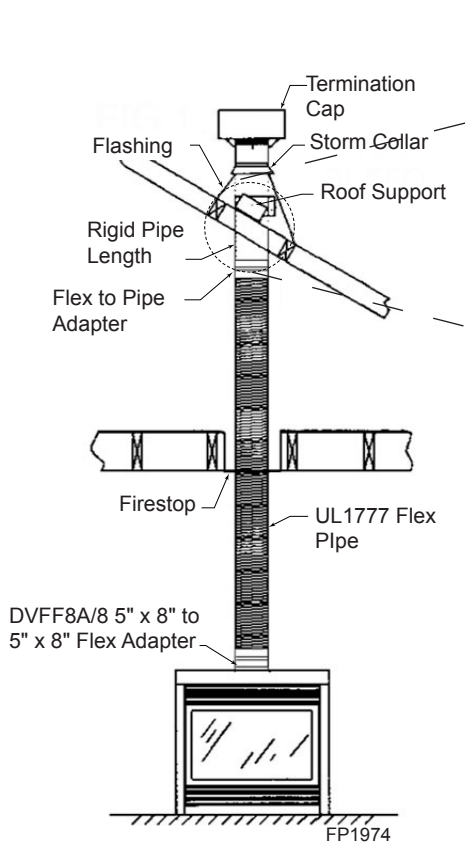

**Figure 38 -
2. Install firestop spacers, *Figure 38*, when penetrating ceiling, attic spaces, or walls.
4. Use only listed and approved terminations and accessories, installed per the installation instructions and *Figure 38*.